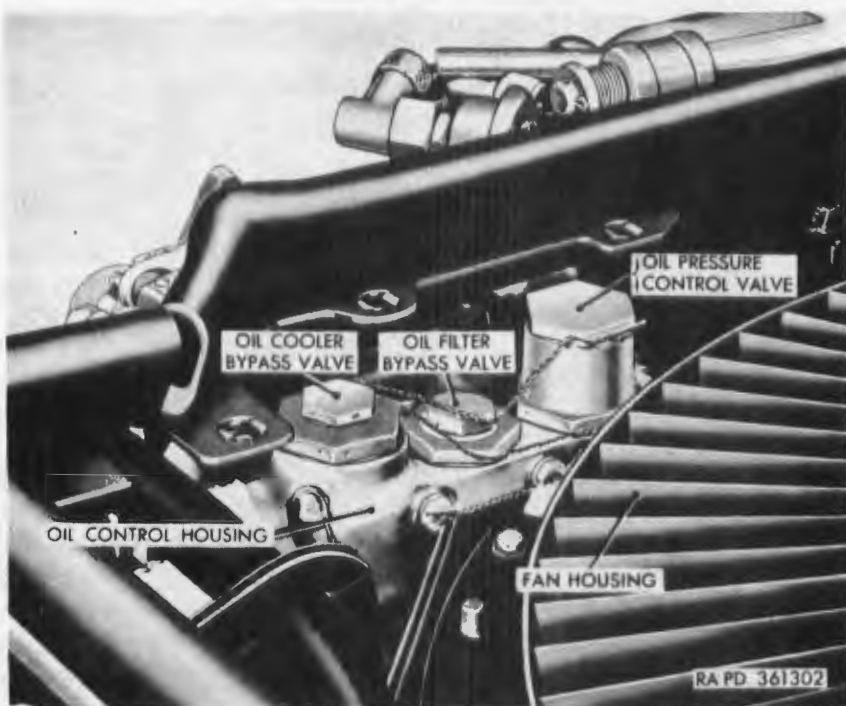
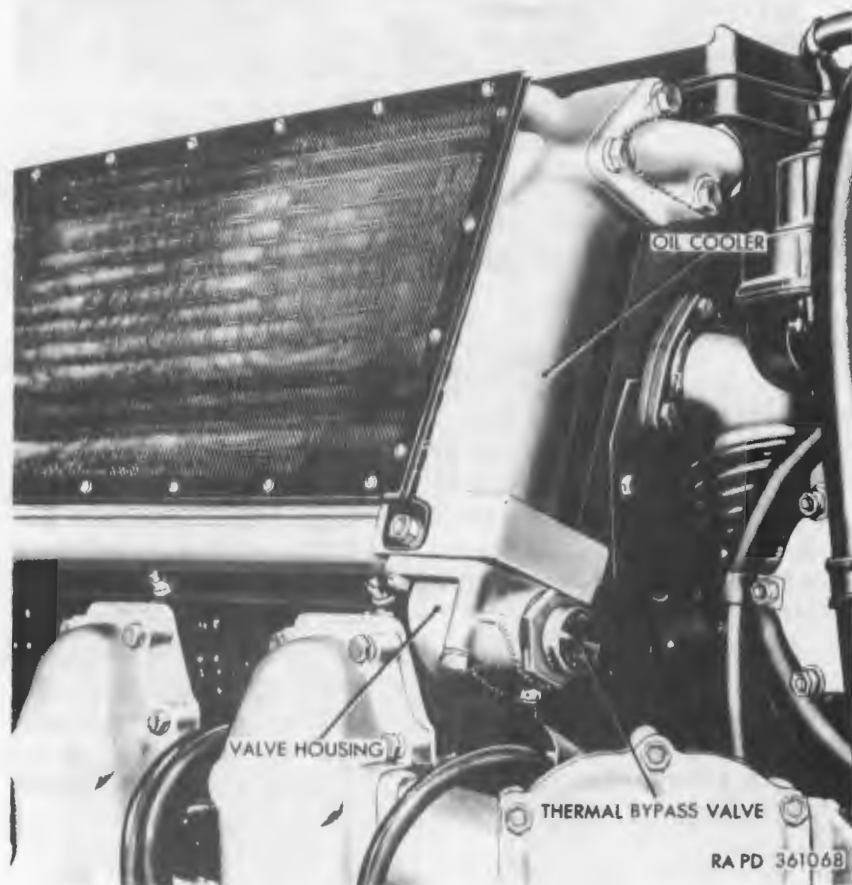

Figure 102. Oil control housing and valves.
Figure 108. Oil cooler thermal bypass valve.
plate assembly. The separate scavenger oil pump is located on the lower side of the accessory case and transfers oil from the accessory case oil sump to the pressure pump reservoir. The two scavenger pumps are constantly transferring oil from both ends of the engine to the main oil sump, assuring an adequate supply of the oil at all times to the pressure pump. The pressure pump then forces the oil to the entire system through the oil control housing (fig. 102) at the top of the accessory case.
- (2) Oil flow in the system is controlled by five valves. Three of these, the oil pressure control valve, the oil filter bypass valve, and the oil cooler bypass valve, are located in the oil control housing (fig. 102). The remaining two valves are thermal bypass valves (fig. 108) one of which is located in each oil cooler.
- (3) The oil cooler thermal bypass valves (fig. 108) permit oil to bypass the oil coolers. On engines through engine serial No. 4470, both valves are of brass and set to close at temperatures above 185° F. Engines with serial No. 4471 and up are equipped with a cadmium plated valve on
the engine oil cooler which is set to close at temperatures above 148° F. When the oil temperatures reach these points, the valve closes and the oil circulates through the cooler. If the engine oil cooler should become clogged, pressure will build up to a differential of 45 psi and the oil cooler bypass valve (fig. 102) in the control housing will open, bypassing the cooler and preventing damage to the cooler. Under this condition the engine oil cooling is seriously reduced. When the engine oil temperature reaches 245 —5° F. (200° F. on some early models), the warning light marked HI OIL TEMP on the warning light panel (B, fig. 15) of the instrument panel is energized by its warning light switch (fig. 248) on the engine. The engine should be stopped immediately when this light is energized.
- (4) Oil normally flows around the oil filter bypass valve (fig. 102) and through the oil filter. If the filter should become clogged, the oil filter bypass valve will open and supply oil directly to the engine.
- (5) The oil pressure control valve (fig. 102) maintains the desired oil pressure in the oil coolers and in the engine oil passages. Excess oil is bypassed to the accessory case sump.
- (6) Drilled passages in the accessory case lead from the oil control housing (fig. 102) to all the bushings in the case and to main oil galleries on each side of the crankcase. Drilled passages extend through the crankcase webs from the main galleries to the main bearings. Drilled holes in the crankshaft direct the flow of oil under pressure from the main bearing journals to the crankpins to provide full-pressure lubrication to the connecting rod bearings. Oil thrown off from the connecting rods lubricates the cylinder bores, piston pins, and rings.
- (7) Oil for lubrication of both camshafts is forced through drilled passages in the accessory case and the drive quills. Connecting passages transfer the oil supply to the hollow camshaft and to the camshaft bearings. Drilled holes in the camshaft journals carry oil to the rocker shafts, rocker arm bearings and rollers. Throwoff oil from the camshafts and rocker rollers lubricates the intake valve stems. A drilled oil passage in the cylinder half of the camshaft bearing lubricates the exhaust valve stems.
- (8) Surplus oil from the rocker boxes and the camshaft housing is returned to the system through an oil drain manifold attached to the cylinder heads on each side of the
b. Removal. Remove engine compartment center grilles (par. 234) over engine fan assembly. The oil pressure control valve (fig. 102) is mounted on the oil control housing in the right front corner of the fan shroud. Remove six hex-head bolts with integral lockwashers securing oil control housing cover to engine fan shroud and remove cover. Cut locking wire and remove valve as an assembly using wrench 5120-473-7791 (fig. 107). Remove and discard gasket.
a. Removal. Remove engine compartment center grilles (par. 234) over engine fan assembly. The oil filter bypass valve (fig. 102) is mounted on the oil control housing in the right front corner of the fan shroud. Remove six hex-head bolts with integral lockwashers securing oil control housing cover to engine fan shroud and remove cover. Cut locking wire and remove valve as an assembly, using wrench 5120-473-7791 (fig. 107). Remove and discard gasket.
b. Installation. Install oil filter bypass valve (fig. 102) in open-
a. Removal. Remove engine compartment center grilles (par. 234) over engine fan assembly. The oil cooler bypass valve (fig. 102) is mounted on the oil control housing in the right front corner of the fan shroud. Remove six hex-head bolts with integral lockwashers securing oil control housing cover to engine fan shroud and remove cover. Cut locking wire and remove valve as an assembly, using wrench 5120-473-7791 (fig. 107). Remove and discard gasket.
b. Installation. Install oil cooler bypass valve (fig. 102) in opening in oil control housing using new gasket. Tighten valve with wrench 5120-473-7791 (fig. 107) and secure with locking wire. Install oil control housing cover and secure with six $\frac{1}{16}$ x $\frac{1}{16}$ hex-head bolts with integral lockwashers. Install engine compartment center grilles (par. 234).
bypass valve (fig. 108) on either the transmission or engine oil cooler is the same.
b. Removal. Open grille doors over oil cooler. Cut locking wire and remove valve from housing (fig. 108) using wrench 5120-473-7791 (fig. 107). Remove and discard gasket.
c. Installation. Insert thermal bypass valve with new gasket into valve housing (fig. 108) and tighten with wrench 5120-473-7791 (fig. 107). Secure with locking wire inserted through valve cap and housing. Close grille doors.